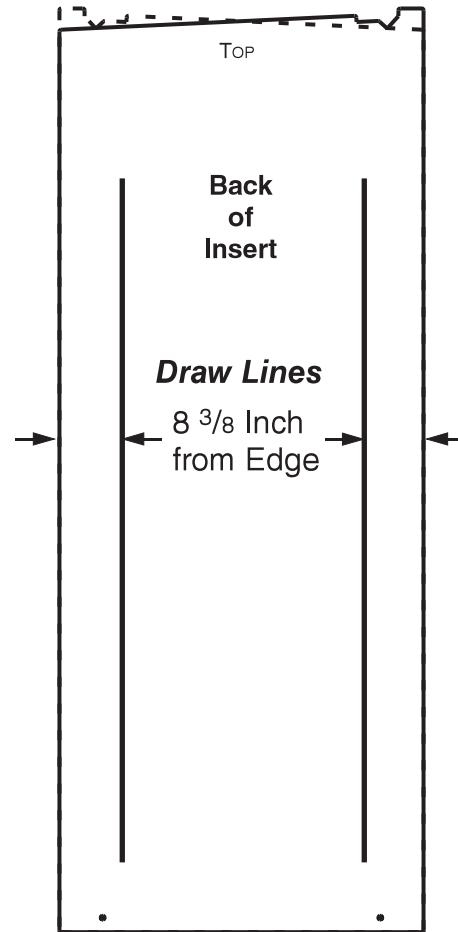

Figure 2 — Draw Placement Lines
9. Use a marker to draw a vertical line parallel to the edge and 8 ³/₈ inch in from each side. These lines will be used for placement of the heaters. See Figure 2.